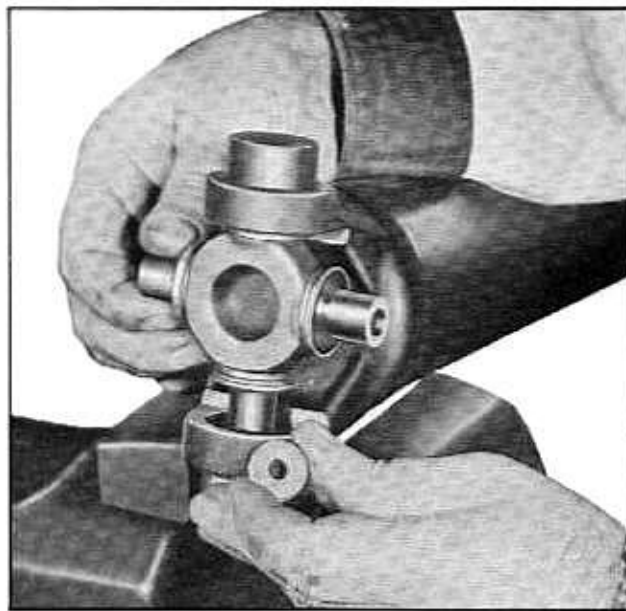

Fig. 4-51 Placing Washers Inside Bearing of Fixed Yoke Member
c. Hold journal up and install three or four small flat washers (Fig. 4-51). Lower journal onto washers and drive bearing out using drift applied to journal.